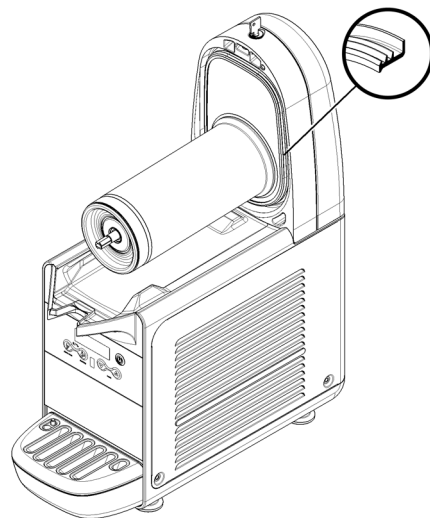

figure 10
- 4 Replace the container gasket. N.B. the rim with the greater diameter must be rested on the rear wall (see figure 10).